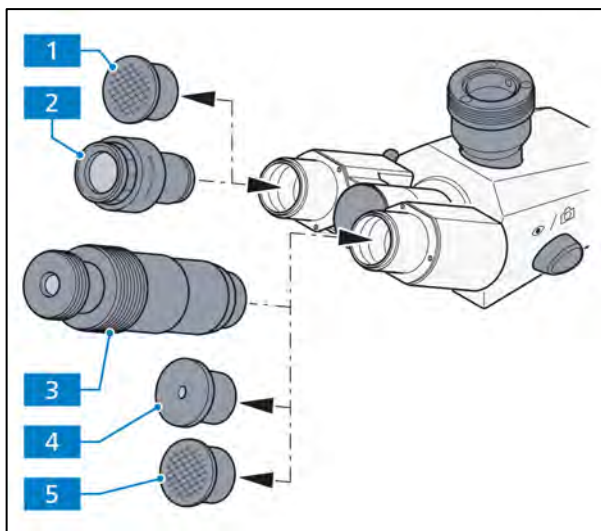

Fig. 3-4 Inserting eyepieces
- Remove both dust cover caps (Fig. 3-4/1 and 5) from the binocular tube.
- Remove both eyepieces (Fig. 3-4/2) from the box and insert them into the binocular tube to the stop.
- Instead of an eyepiece you may insert an auxiliary microscope (Fig. 3-4/3) into one of the binocular eyepiece tubes in order to observe aperture, phase and darkfield diaphragms and to center phase and darkfield diaphragms. These diaphragms can be focused with the adjustable eye lens of the auxiliary microscope.
- The auxiliary microscope (Fig. 3-4/3) or the dipter (Fig. 3-4/4) can be used to observe conoscopic images.